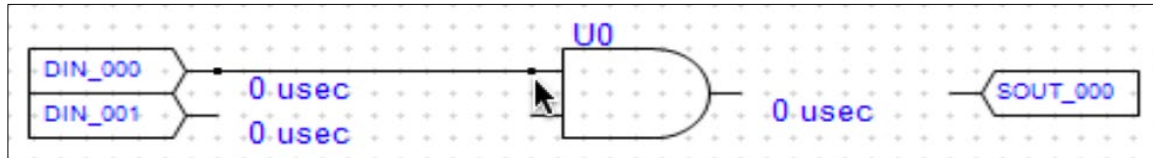

Figure 70 - Finishing the Connection
- 3) Release the mouse button to finish the connection. The new connections at each pin are shown as black vertex points (Figure 70 - Finishing the Connection).